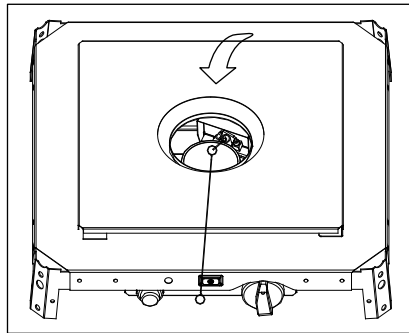

Figure 3
- As you are depressing the control knob, place long stem lighter (not included) through the hole on the control panel to light the pilot. (Figure 3).